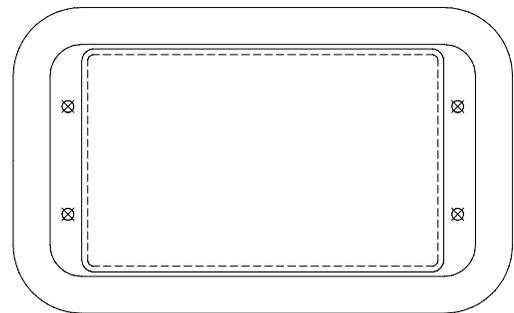

FIGURE 1
- 1) Using the trim bezel as a template, inscribe the position for mounting the OscLaser™ as shown in Figure 1. To access and mark mounting holes, the gasket must be pierced with an ice pick or a sharp pointed object. Be sure to mark positions for the four mounting holes when completing this task.